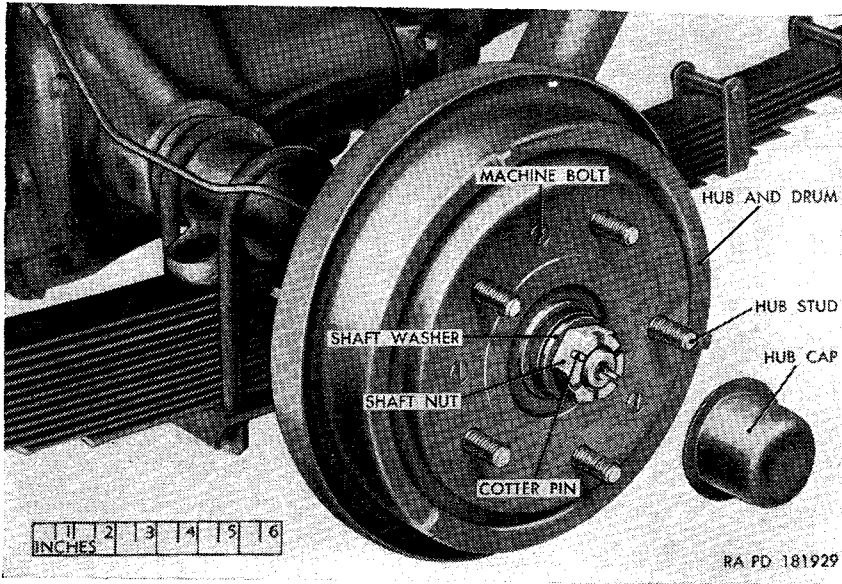

Figure 146. Rear axle with brake, hub, and drum assemblies—hub cap removed.
- (1) Remove the wheel (par. 250*a*).
- (2) Pry off the hub cap and remove the cotter pin, shaft nut, and shaft washer (fig. 146).
- (3) Using a suitable puller, pull the hub, drum, and key from the shaft.
- (6) Position the backing plate with brake shoe assemblies against the bearing retainer with the plate drain hole aligned with the bearing retainer and housing drain hole.
- (7) Position the oil seal gasket, the outer oil seal, the grease slinger gasket, and the grease slinger on the backing plate, with the drain hole in each aligned with the drain hole in the plate. Insert the remaining three  $\frac{3}{8}$  x  $1\frac{1}{4}$  bolts through
- (8) Connect the brake line to the brake wheel cylinder,
- (9) Place the hub and drum (fig. 146) on the shaft, with the hub keyway alined with the shaft keyway. Insert the key into the keyway and tap the key and hub and drum into position on the shaft.
- (10) Place the shaft washer on the shaft, screw the shaft nut on the end of the shaft and secure the nut with a  $\frac{1}{8}$  x  $1\frac{1}{2}$  cotter pin.
- (11) Install the wheel (par. 250*b*), and lower the vehicle to the ground. Bleed the brakes (par. 237).